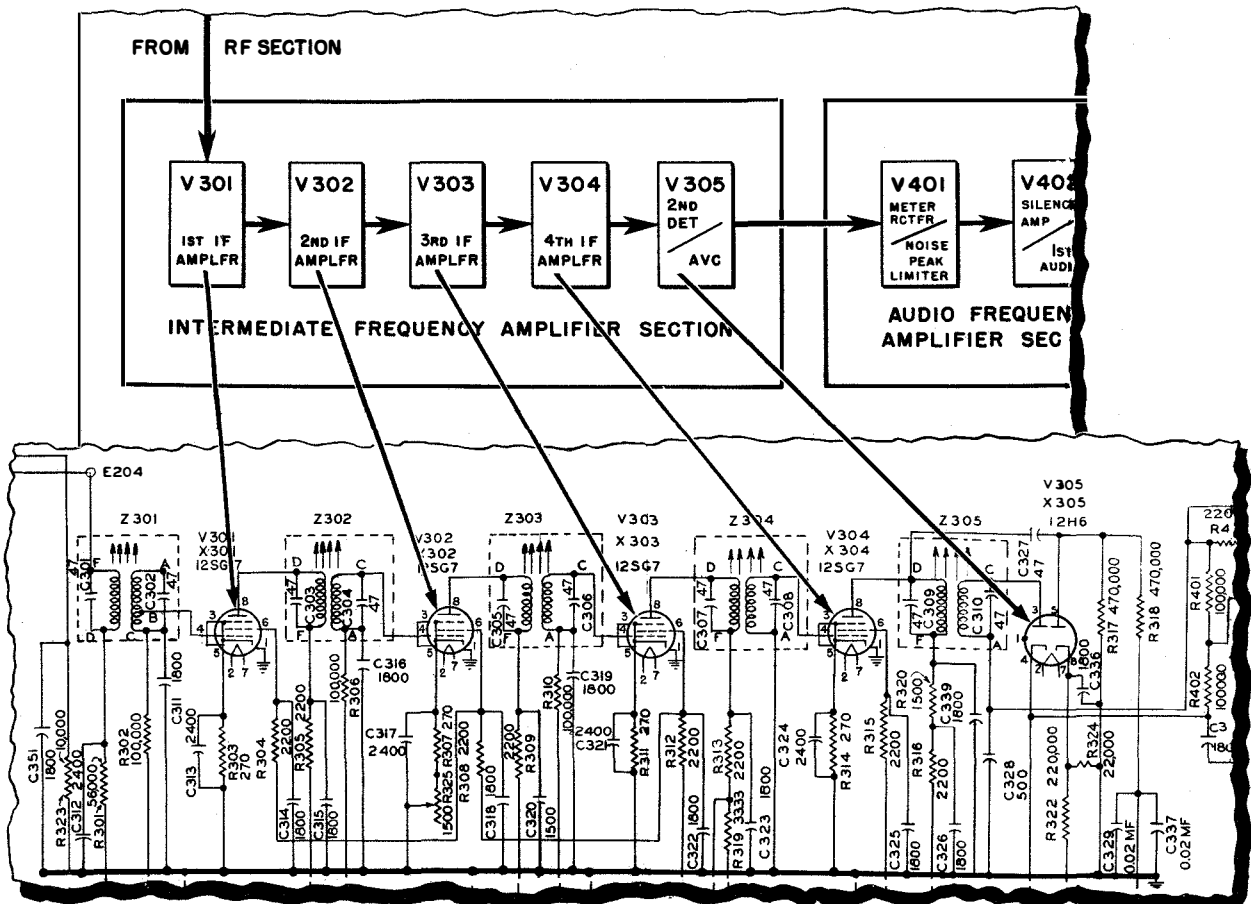

Figure 2-4. Intermediate-Frequency Amplifier Circuits
(3) INTERMEDIATE-FREQUENCY AMPLIFIER.—The intermediate-frequency amplifier consists of four stages employing fixed tuned transformers Z301, Z302, Z303, Z304, and Z305, as coupling between the associated tubes V301, V302, V303, and V304, as shown in Figure 2-4. The transformers are wound with their coupling a little greater than critical, to broaden the top of the resonance curve. They are partially tuned by fixed capacitors connected across the windings; final alignment is made with adjustable cores.